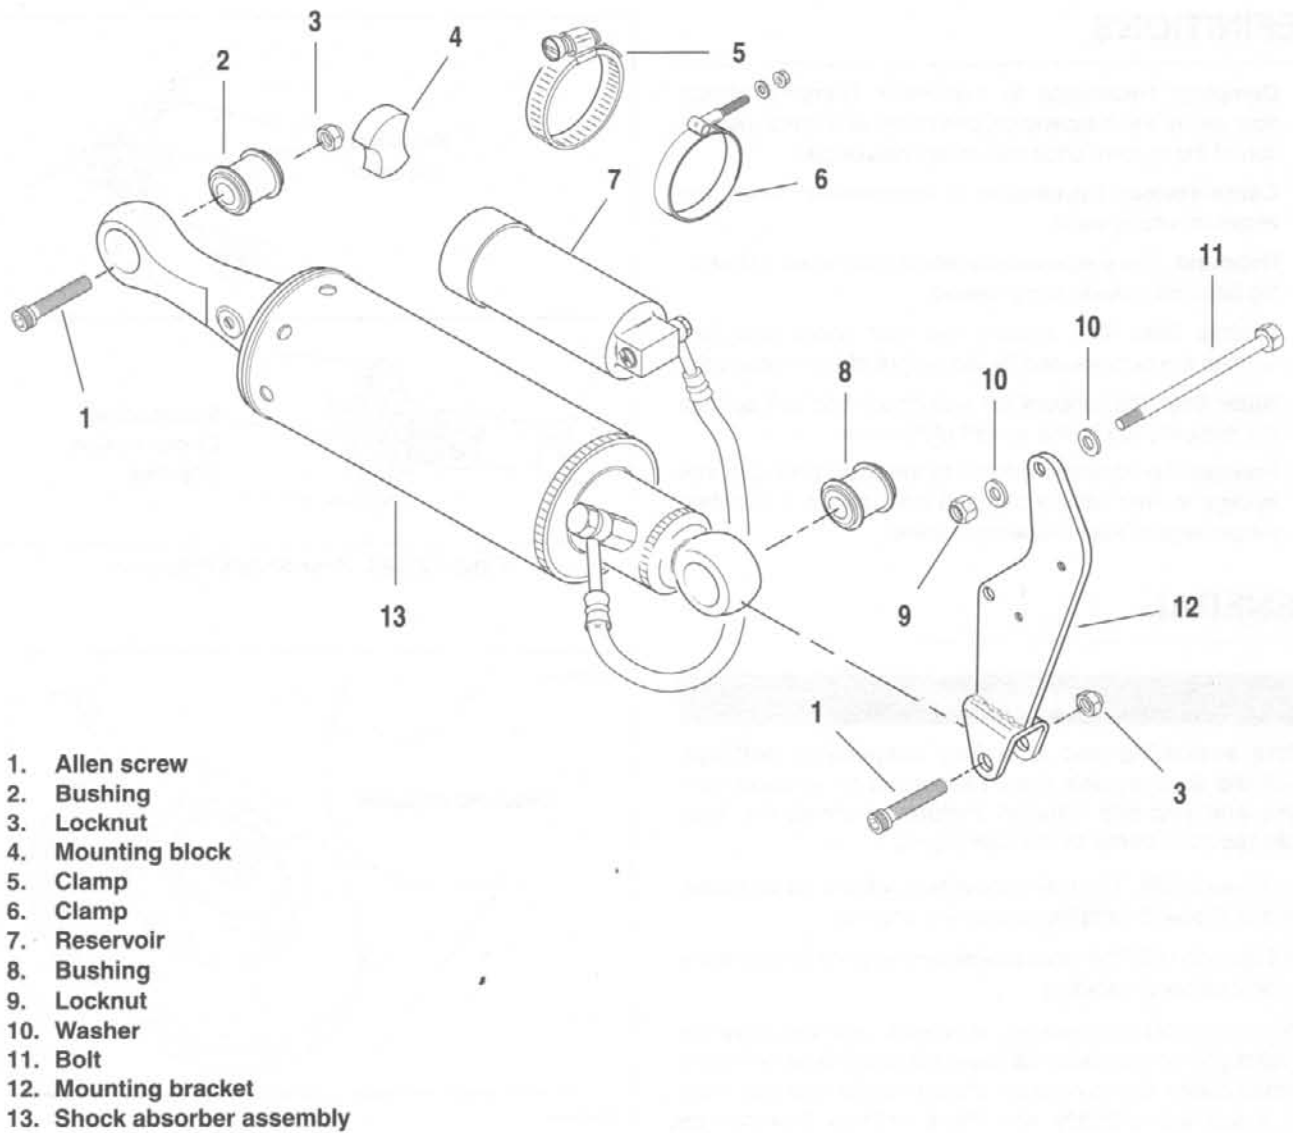

Figure 2-123. Rear Shock Absorber
1. See Figure 2-123. Place **new** bushings (2, 8) into mounting holes of shock absorber